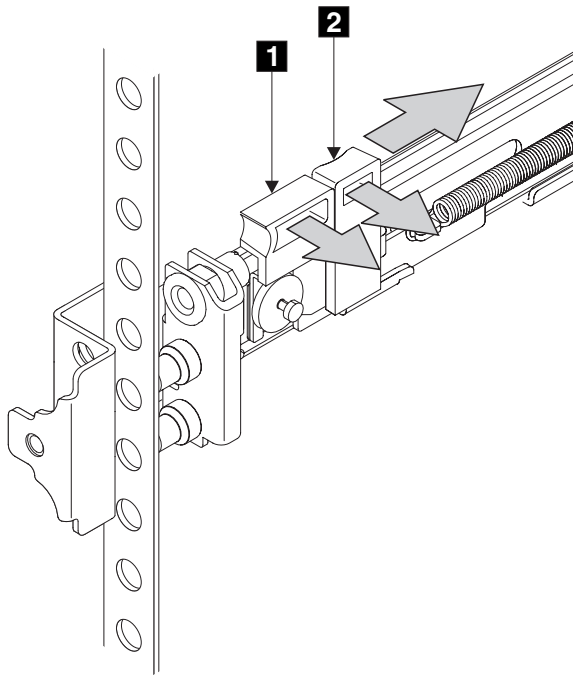

Figure 51. The left support rail for the SAN Volume Controller
2. Put your left index finger onto the back edge of the latch lever **2** and your left thumb on the front edge of the latch lock **1**, as shown in Figure 51 on page 70